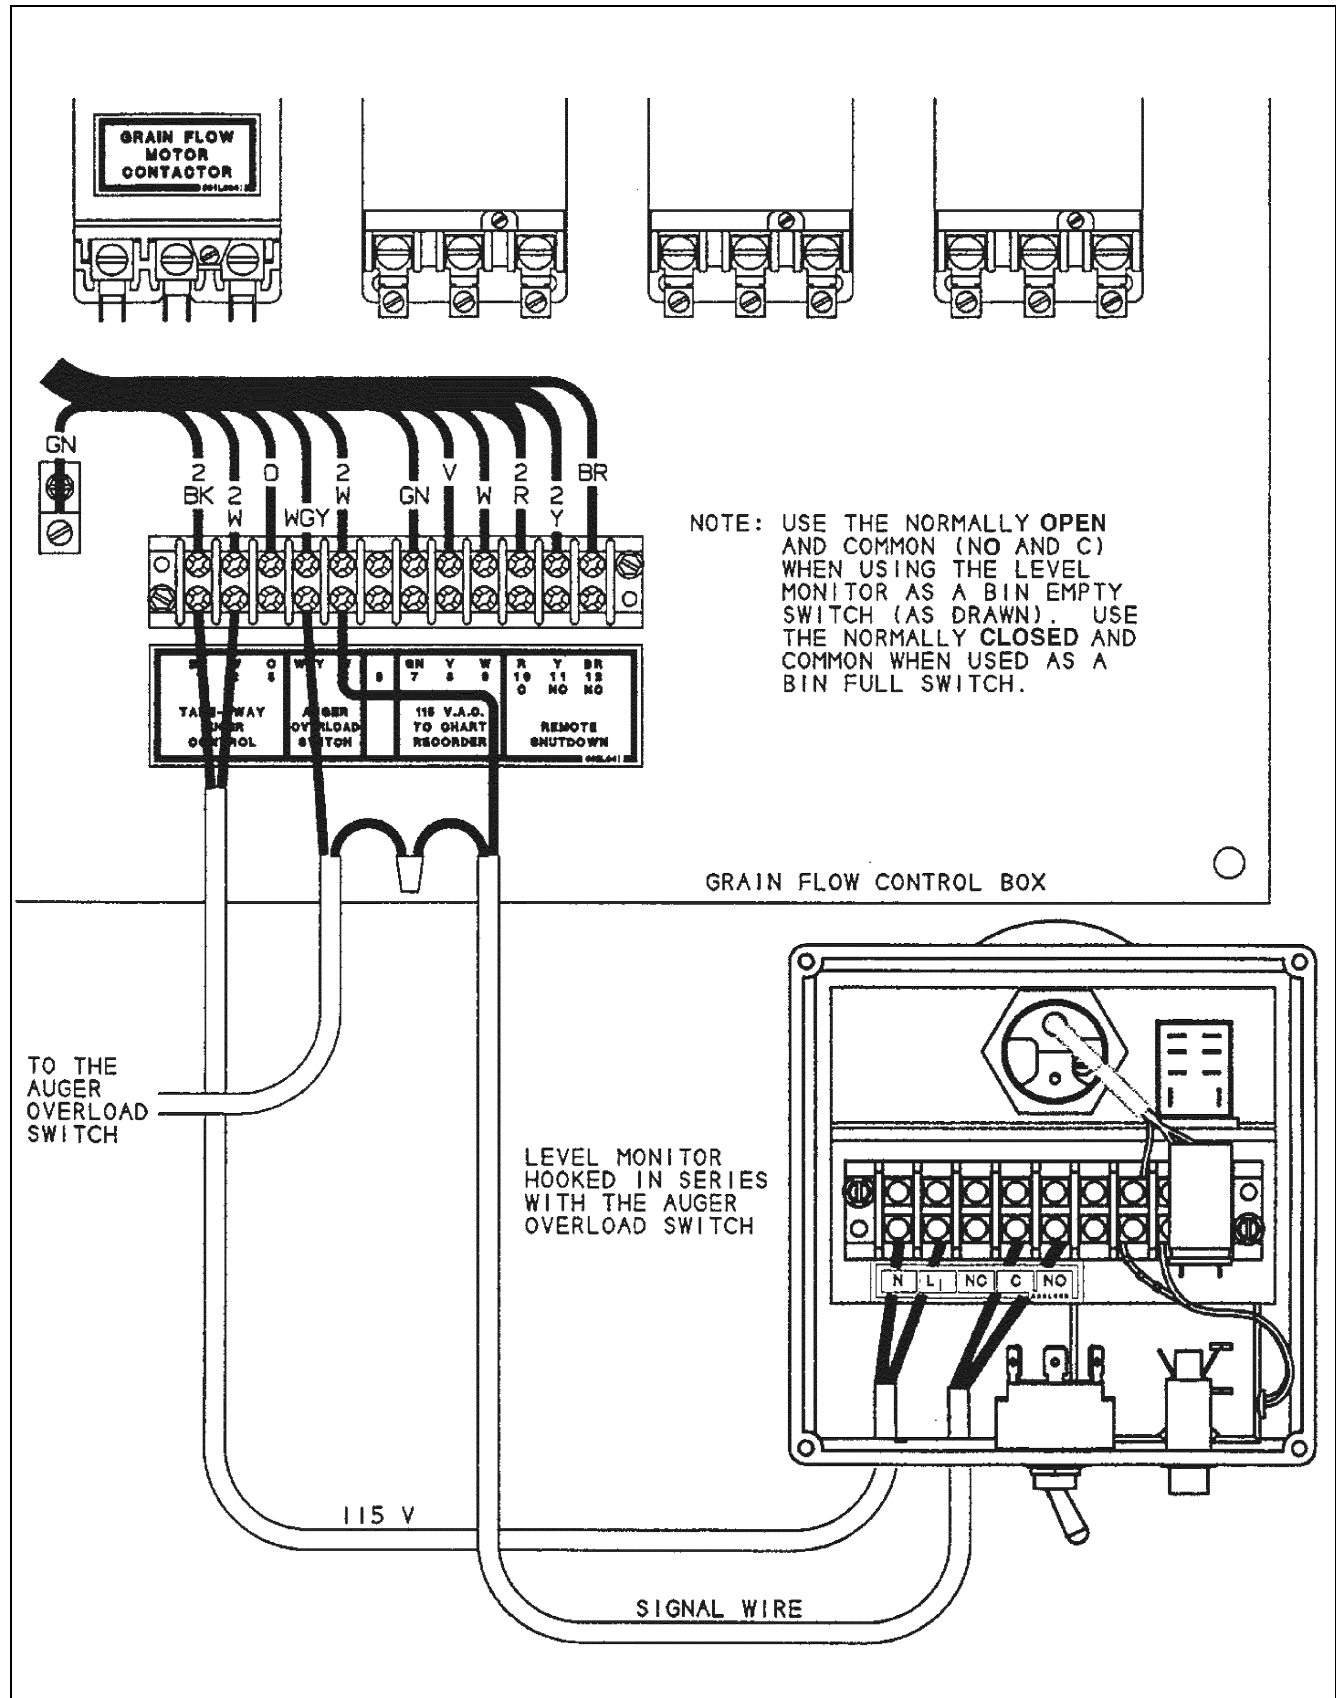

Figure 11C
1. Locate the auger overload switch terminals #4 and #5 on the terminal strip at the bottom of the Grain Flow back panel. Connect the level monitor in series with the auger overload by removing the auger overload wire from terminal #5. Use a wire nut to connect the wire from the auger overload switch to the wire attached to the “NO” terminal in the level monitor. Attach one end of another wire to the “C” terminal in the level monitor and the other end to terminal #5 in the Grain Flow. Other shut down equipment used to control the Grain Flow should be wired in series with this circuit in a similar way. *(See Figure 11C on Page 102.)*